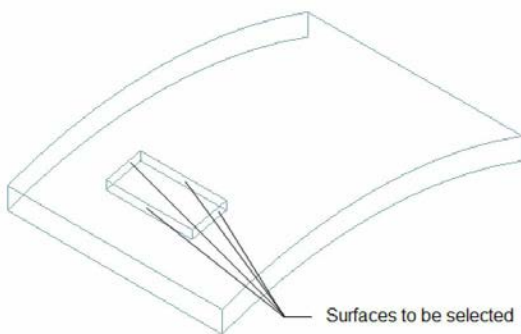
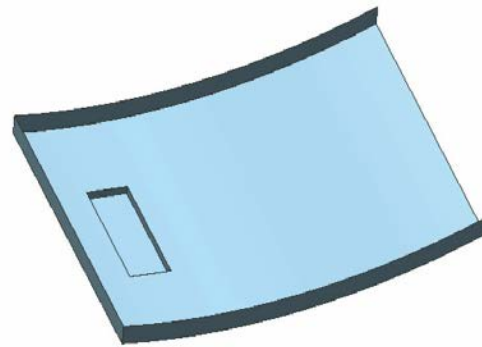

Figure 11-77 Surfaces to be selected
Figure 11-78 Resultant surface model
- f. Trim the fourth feature using the **Trimmed Sheet** tool, refer to Figures 11-77 and 11-78.
5. Select the surfaces as trimming objects, refer to Figure 11-77. Next, choose the **OK** button from the **Trim Sheet** dialog box. The rotated view of the resultant surface model is shown in Figure 11-78.